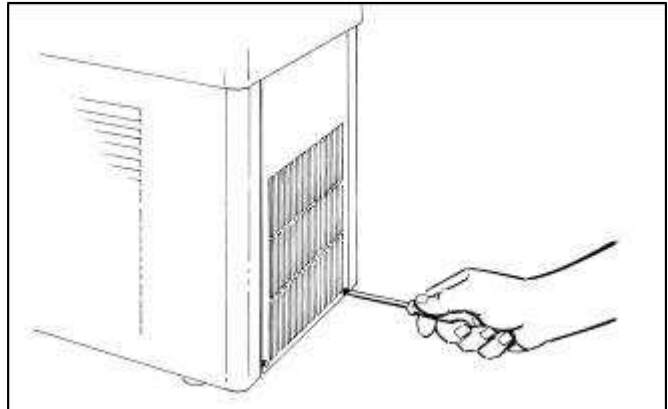

Рис. 41
-GT1 machine: remove the rear panel by unscrewing the two bolts fastening it (Рис.41);